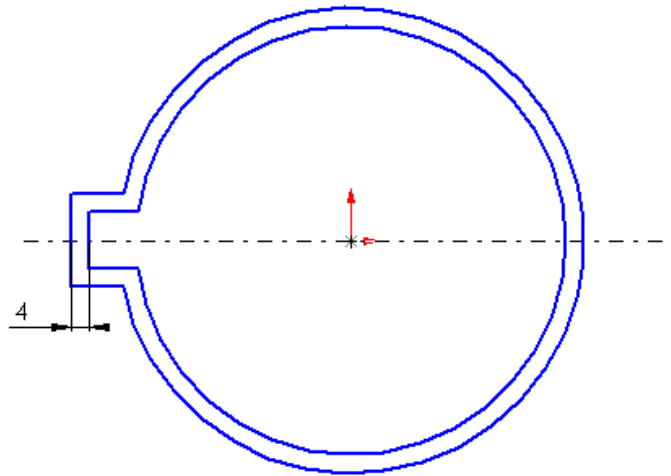

Figure 2-52 Sketch after offsetting the outer loop
- e. Offset the entire sketch, refer to Figure 2-52
- f. Complete the final editing of the sketch using the sketch extend and sketch trim tools, refer Figures 2-52 and 2-54.
The sketch after offsetting the outer loop is shown in Figure 2-52.